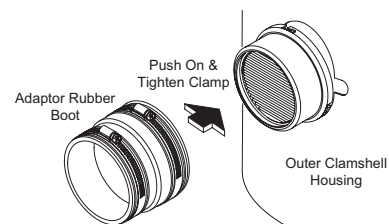

Figure 13. Adapter Rubber Boot
- To connect heater to the air inlet, use the vent adaptor rubber boot provided in the base skirt. The adaptor rubber boot is designed for 3" venting (Figure 13).